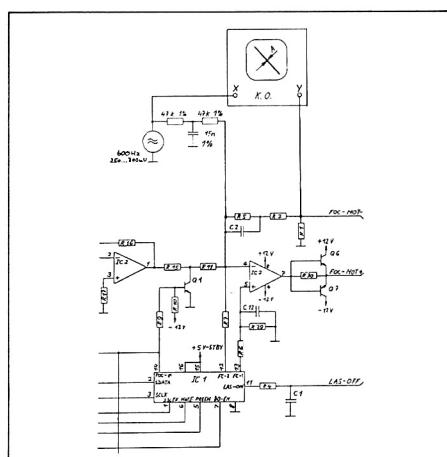

Fig. 4.16
- Connect AF generator to the X input of an oscilloscope and via an R-C-R element (according to Fig. 4.16) to pin 6 of IC2 (on 1.769.310/315), (f=600 Hz +/- 5 Hz, U=250 to 300 mV RMS).